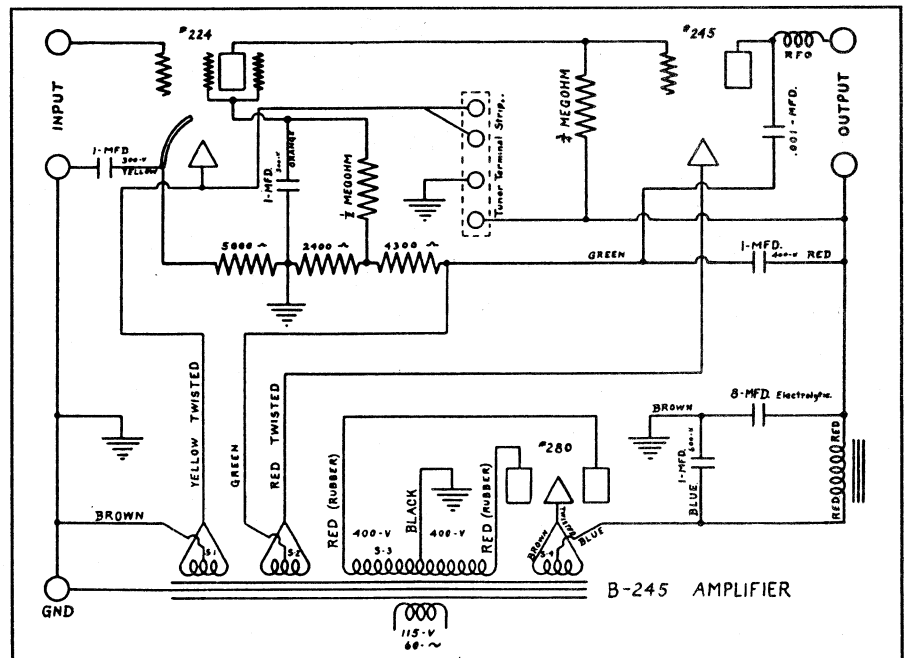

Fig. 3: Electrad's later 1931 version of the Loftin-White circuit, with improved filtering and an earthed input terminal.
*A surviving Loftin-White amplifier, very similar to the Electrad version of Fig.3. The wiring techniques are typical of 1930.*
Electrad, a resistor manufacturing firm, made suitable modifications to eliminate these problems and marketed a range of Loftin-White amplifiers, especially for PA work (Fig.3). But the major commercial application came as a result of a market trend in receivers.